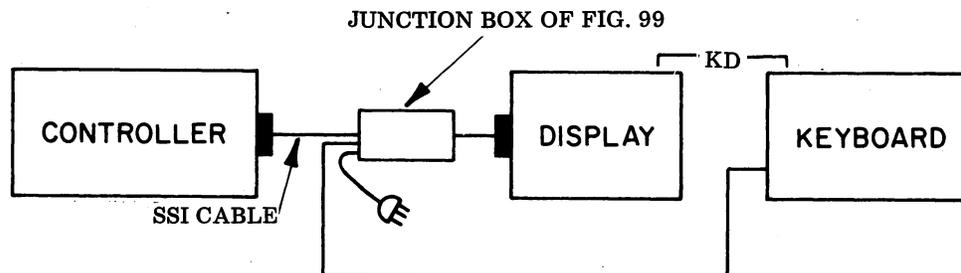

Fig. 97
3.65 One of three standard SSI cable lengths, or one special cable length (SCC to KD cable length not to exceed 5000 feet) may be used between the controller and a KD. See Fig. 97.